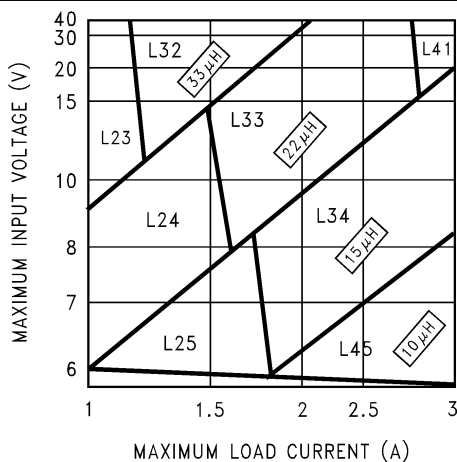

Figure 7-2. LM2670 – 3.3 V
Step 3: Use the nomograph for the 3.3-V device, Figure 7-2. The intersection of the 16 V horizontal line ($V_{IN \text{ max}}$) and the 2.5 A vertical line ($I_{LOAD \text{ max}}$) indicates that L33, a 22- μH inductor, is required.